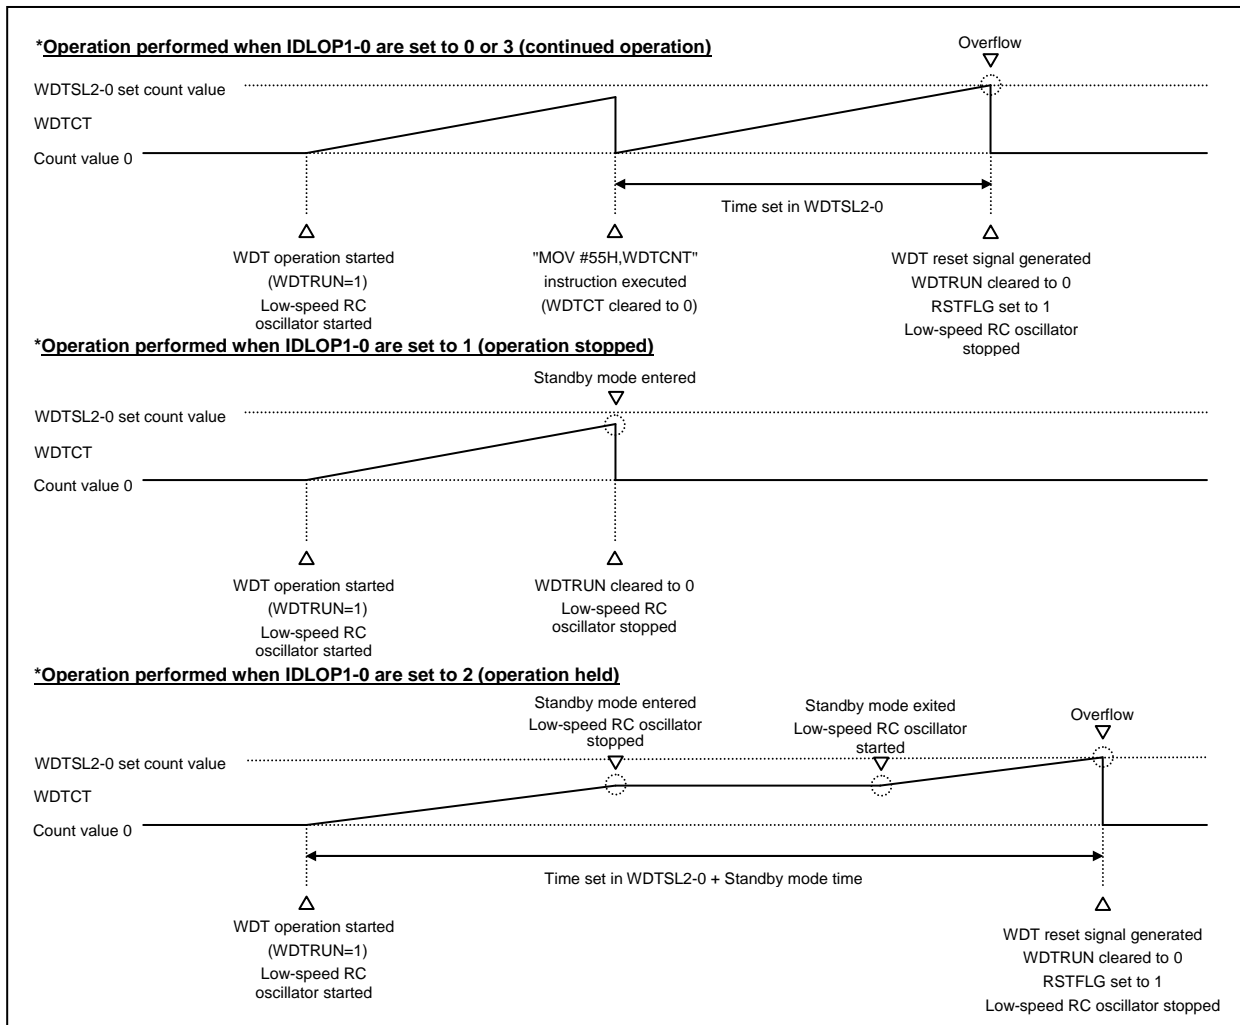

Figure 4.5.5 Sample Watchdog Timer Operation Waveforms
* See Figure 4.5.5 for details on the WDT operation.
- * See Figure 4.5.5 for details of the WDT operating modes.